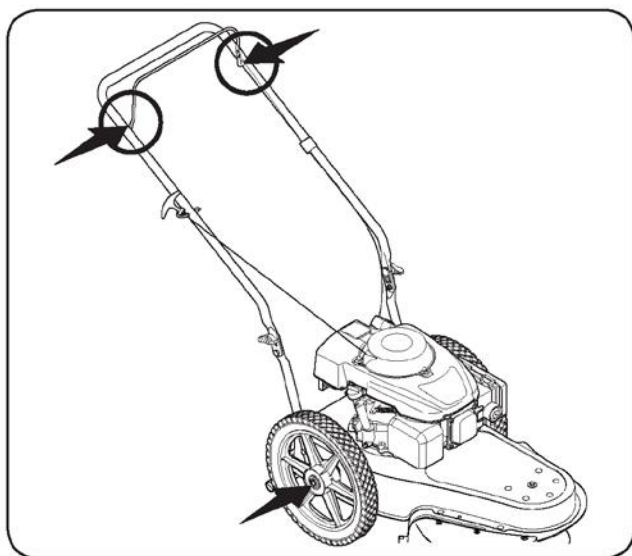

Figure 6-1
3. Lubricate lever fulcrum with light oil at least once a quarter. The lever must be able to switch smoothly in both directions. See figure 6-1.
1. Lubricate wheel parts with light oil (oil) at least once a quarter. After removing the wheel (for whatever reason), lubricate the surface of the axle bolt and the inner surface of the wheel with light oil. See figure 6-1.